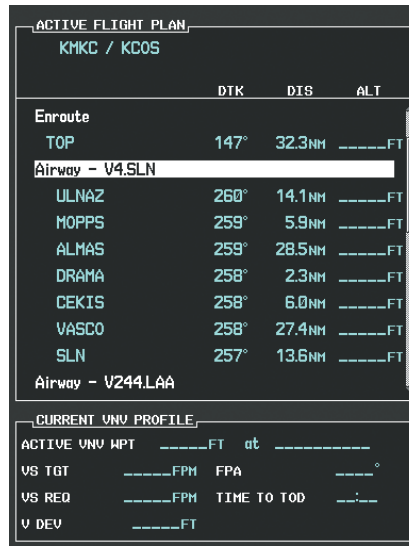

Figure 5-112 V4 is Loaded in the Flight Plan
I) V4 is now loaded into the flight plan as shown in Figure 5-112.